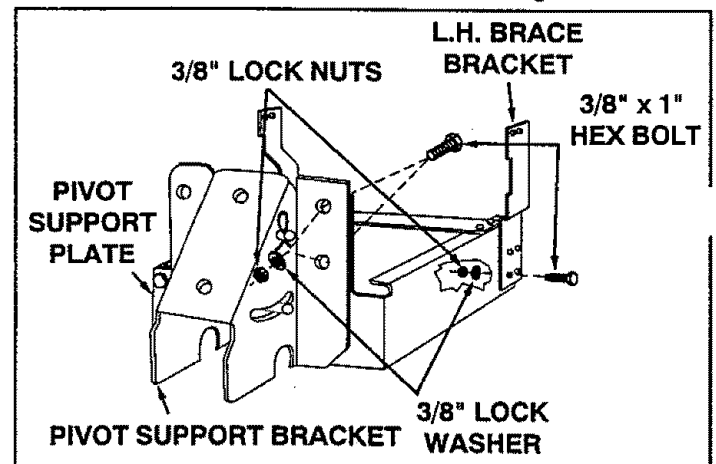

FIGURE 17
- Using the two holes on each side of the pivot support bracket, attach it to the outside of the plate pivot support using four 3/8" x 1" hex bolts, lock washers and lock nuts. See figure 17.
- Paying special attention to which way the curves are running, Attach the brace brackets to each side of the frame using the bottom inside hole on each side as shown in figure 17. Secure each using two 3/8" x 1" hex bolts, lock washers and lock nuts. See figure 17.